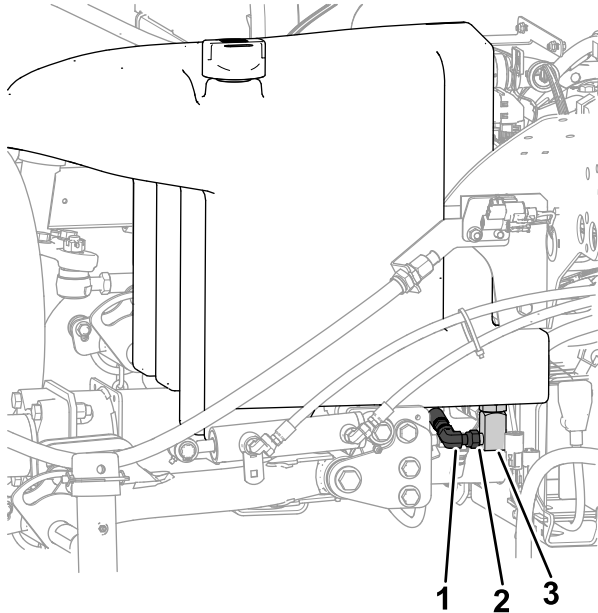

Figure 108
2. Place a large drain pan under the manifold (Figure 108) on the bottom the hydraulic tank; refer to Hydraulic Fluid Capacity \(page 64\).